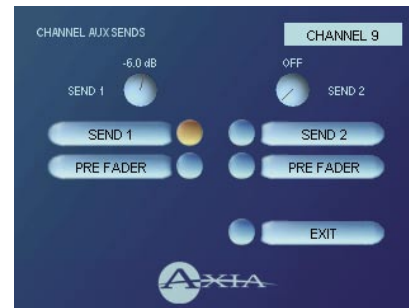

Figure 4-7: Channel Aux Sends menu
- **Aux Sends** changes the right-hand screen to display the Channel Aux Sends menu (Figure 4-7). SmartSurface has two stereo Aux buses that can be used as utility buses for mixing, for